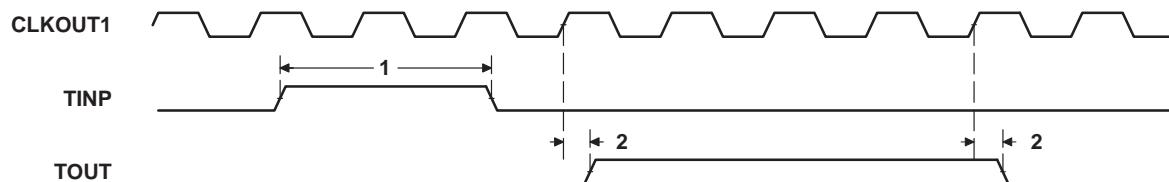

Figure 38. Timer Timing
**timing requirements for timer inputs (see Figure 38)†**
**switching characteristics for timer outputs (see Figure 38)**